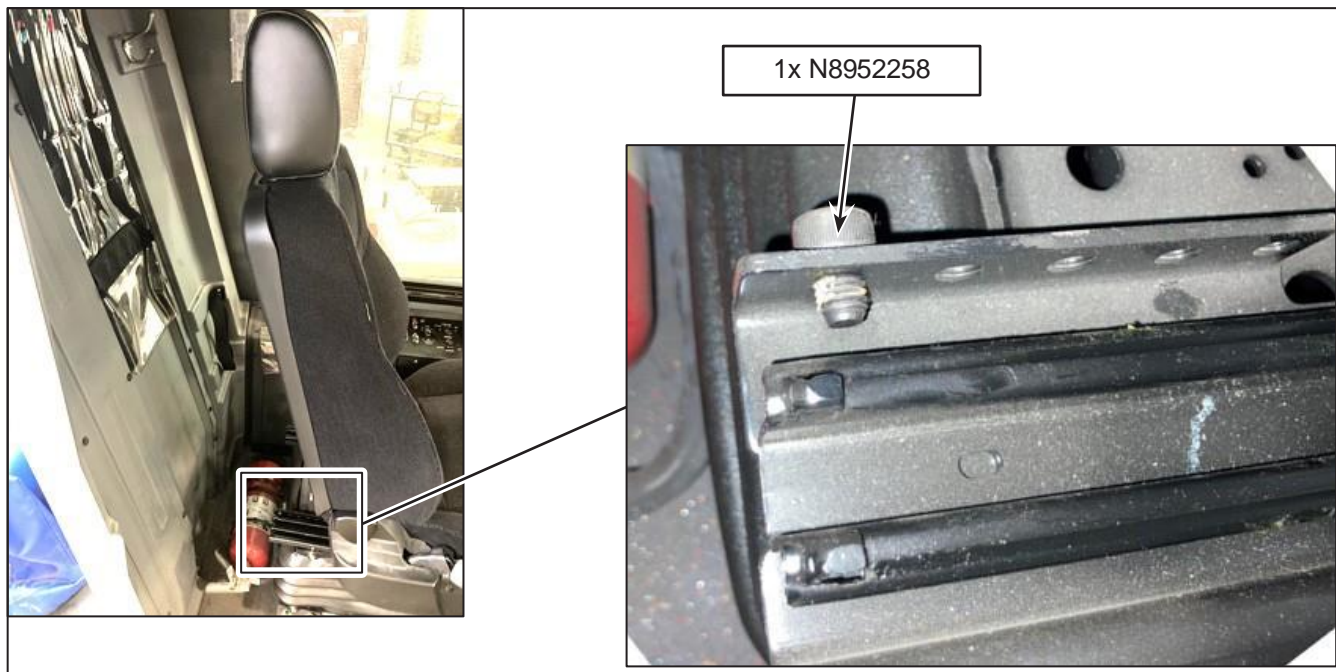

Figure 2 - Installation of the Seat Stopper on the Seat Rail
- 1.8. Screw the new N8952258 Socket Head Screw into the rearmost hole of the rail (Figure 2). Finger tightens.